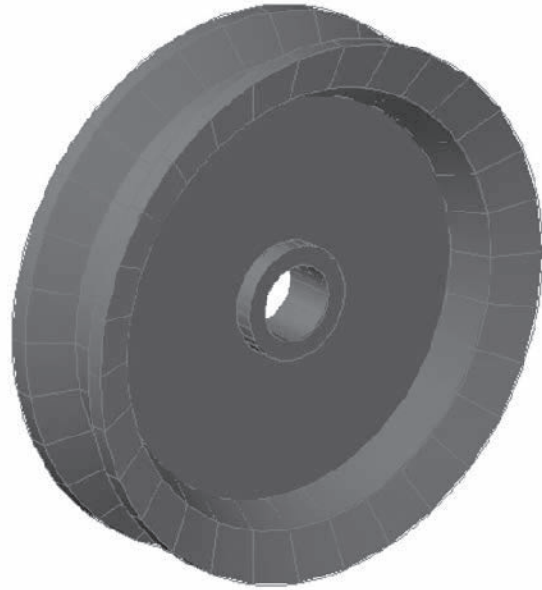

Fig. 46-2
7. Select an isometric viewpoint. Your view should be similar to the one in Fig. 46-2.